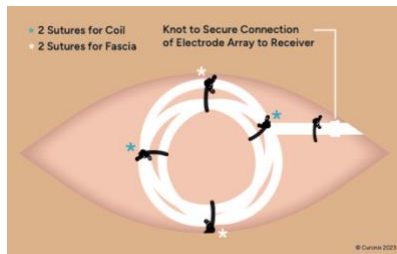

**Figure 2**
3. Tie two non-absorbable sutures to permanently form the receiver coil. Tuck the end of the receiver coil underneath the coil to avoid protruding edges. This may mitigate potential pocket complications associated with erosion. (Figure 2)